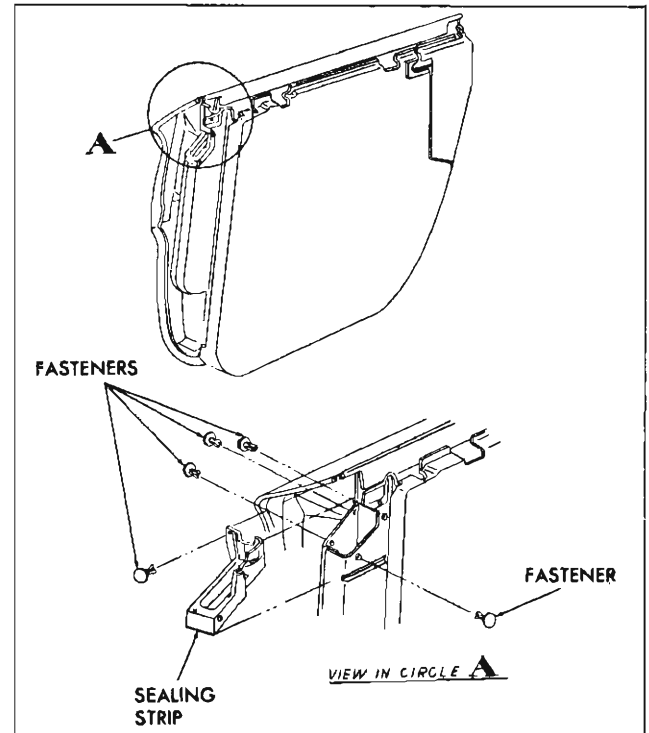

Fig. 39—Rear Door Hinge Pillar Sealing Strip
1. Remove snap fasteners securing sealing strip to hinge pillar facing of rear door and remove strip (fig. 39).